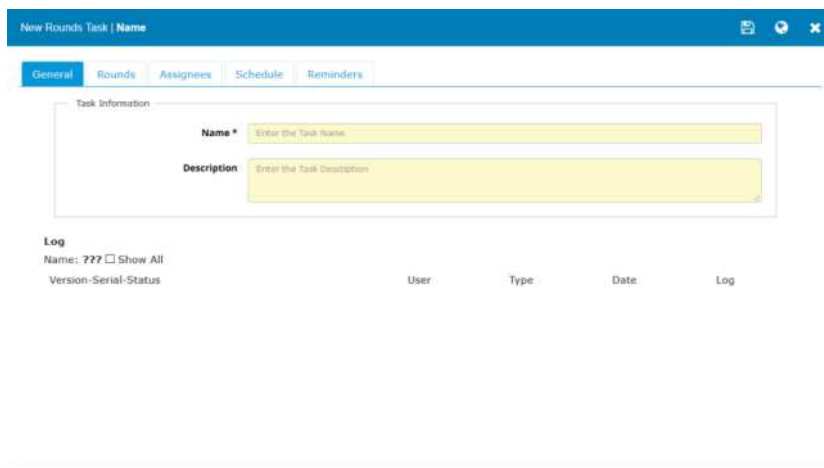

Figure 45 Rounds Task editor: General tab
- When it is not, the version tracking log is displayed on this tab, example Figure 45, above. Only the latest version information is displayed unless the **Show All** checkbox is selected.